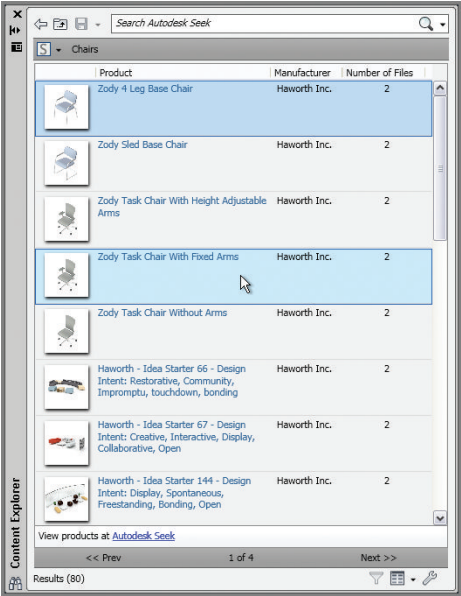

FIGURE 9.17 Searching for chairs
5. You can click on any of the *breadcrumbs* to go to specific folders in the local path. Alternatively, you can access online content. Open the Content Sources menu, and select Autodesk Seek. Double-click the Chairs folder, and select this item in the list: Zody Task Chair With Fixed Arms (see Figure 9.17).